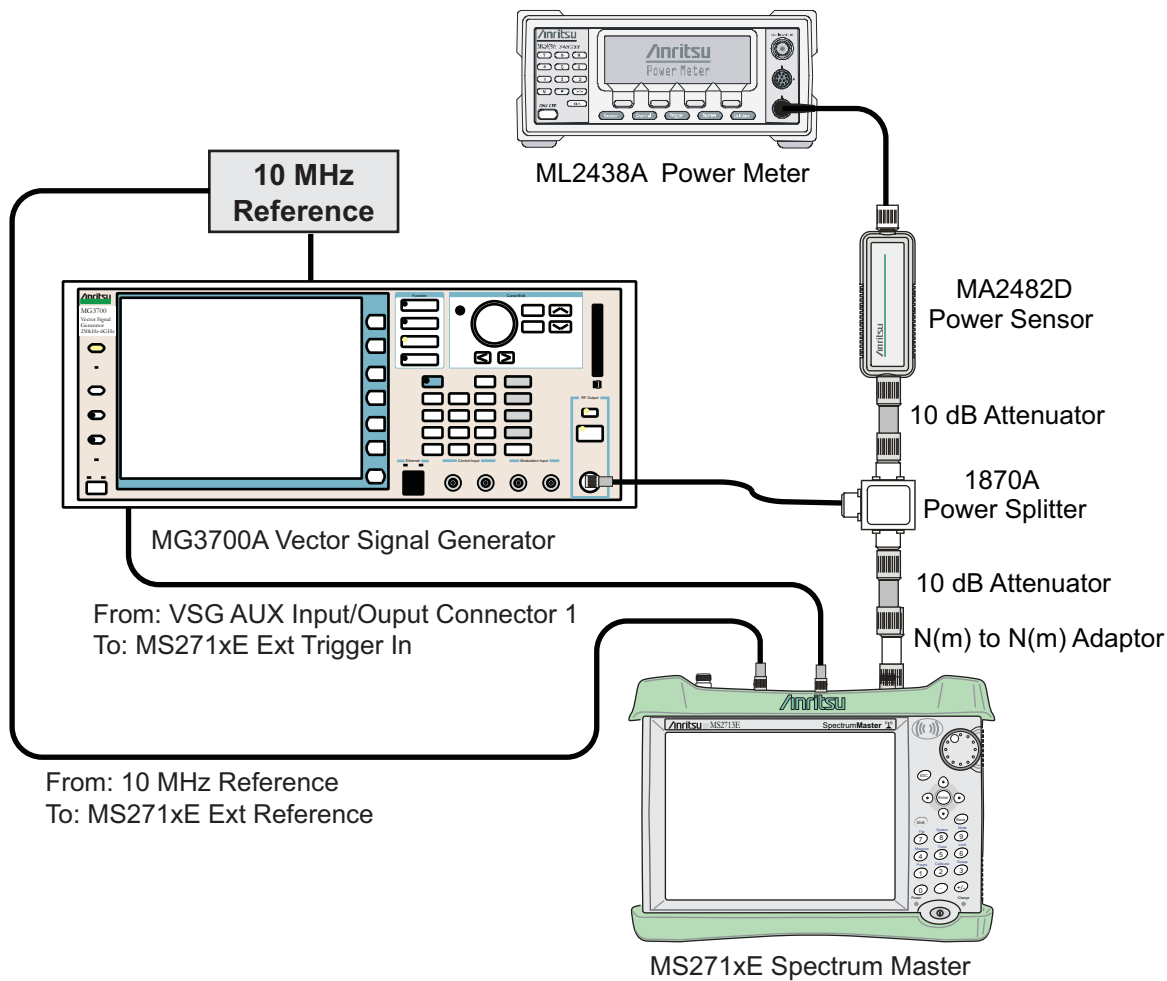

Figure 4-12. TD-SCDMA Signal Analyzer Option Verification
2. Connect the equipment as shown in Figure 4-12.